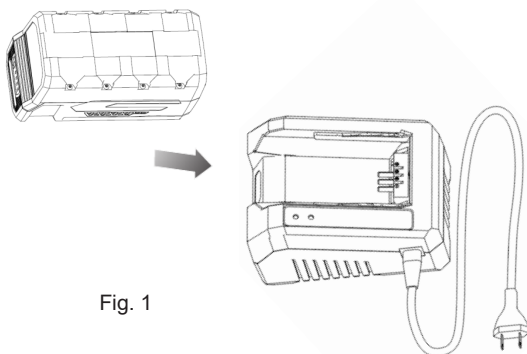

Fig. 1
- Slide battery pack into charger. (Fig. 1)